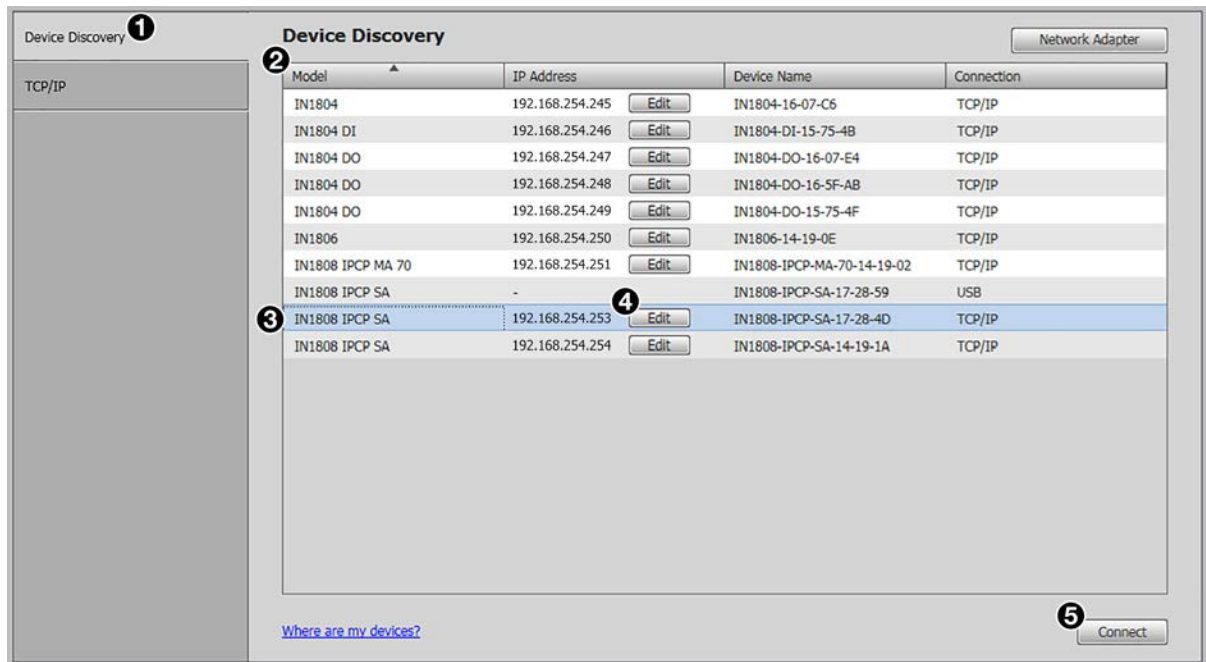

Figure 36. Device Discovery Screen
1. Click the **Device Discovery** tab (see figure 36, ❶).
2. Click the desired column heading (❷) to sort it in ascending or descending order.